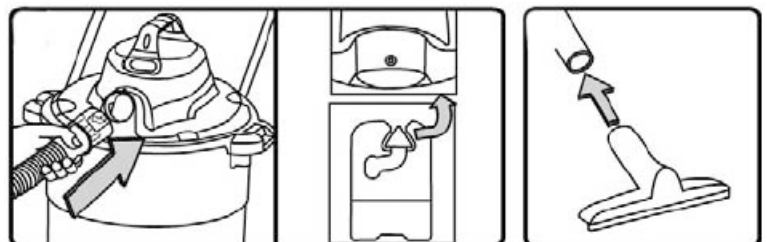

Figure 8
- 1) Install the locking end of the flex hose Fig.8 to the vacuum inlet (front of the vacuum) by inserting the locking end and turning clockwise to lock it in place.
- 3) Attach either the floor sweep Fig.8, crevice tool or gulper tool to the other end of the extension wand assembly.